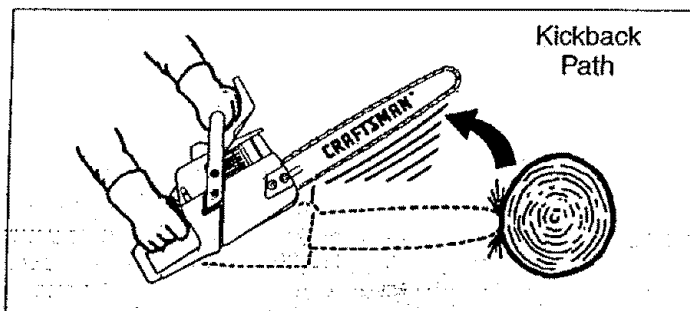

Figure 2
- **Never let the moving chain contact any object at the tip of the guide bar.** Figure 2.